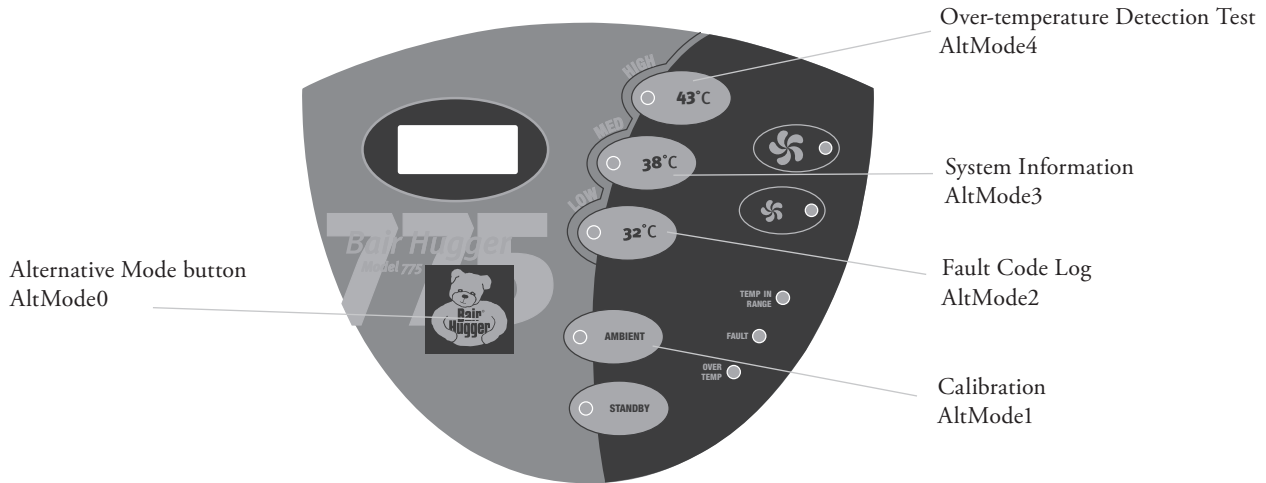

Figure 2. Location of Alternative Mode button
To enter one of the alternative modes, press the alternative mode button in combination with one of the operating mode buttons, also located on the front panel. Figure 2 indicates which keys must be pressed to enter each of the 5 alternative modes. When the correct combination of keys is pressed, the display reads “Hold for AltModeX,” where “X” represents the selected alternative mode.
4. Press the **Alternative Mode** button (see "Figure 2. Location of Alternative Mode button" on page 8) and the **Ambient** button simultaneously for 3 seconds. The temperature management unit is now in *Calibration* mode. In this mode, the temperature management unit performs the following tasks:
4. Press the **Alternative Mode** button (See "Figure 2. Location of Alternative Mode button" on page 8) and the **43°C** button simultaneously for 3 seconds. The temperature management unit is now in the *Over-Temperature Detection Test* mode. In this mode, the temperature management unit performs the following tasks:
2. Press the **Alternative Mode** button ("Figure 2. Location of Alternative Mode button" on page 8) and the **32°C** button simultaneously for 3 seconds. The temperature management unit is now in *Fault Code Log* mode. In this mode, the temperature management unit performs the following tasks: